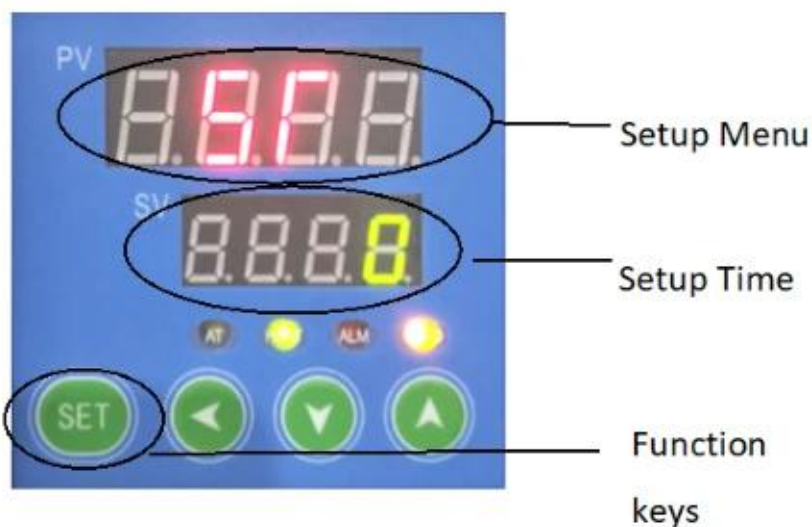

Figure 6
- 4.1 See figure 6, After pressing the SET key for 4 seconds, the PV screen displays "  ", if SV screen display "0", it indicates that timing function not set (factory status).